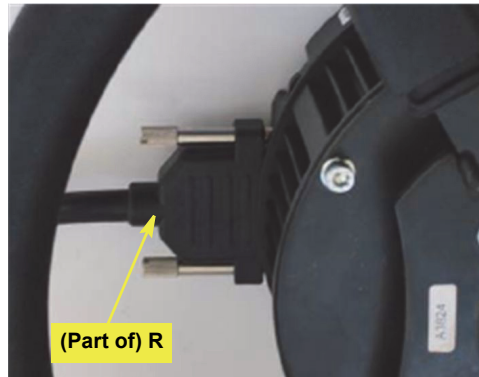

Figure 7b: Junction box comms cable connected to steering wheel assembly
- c. Clip the junction box **R** into place on its bracket **S** (neither shown) then connect **R**’s 15-pin connector cable to the communications port on the steering wheel assembly (Figure 7b). Use clip **U** suitably (not shown).